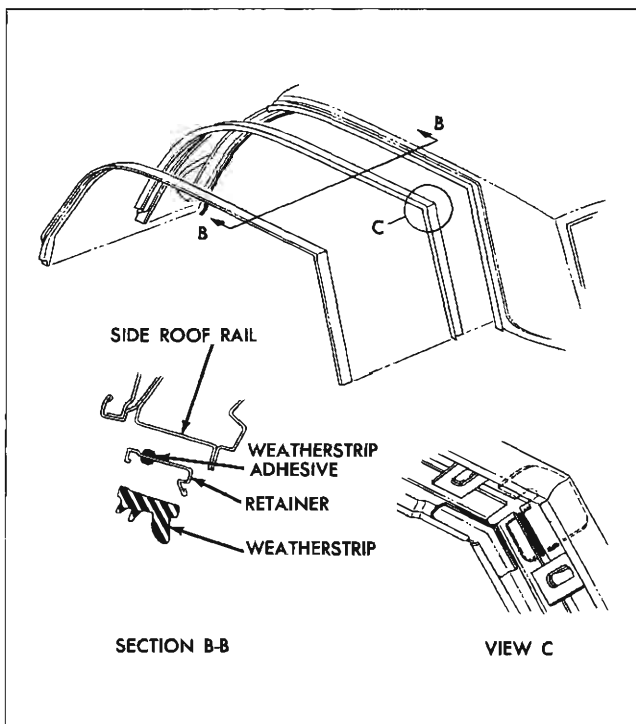

Fig. 3-60 Side Roof Rail Weatherstrip - 39 Style
NOTE: The side roof rail retainer to side roof rail sealing gasket (shown in Fig. 3-60 for 39 style and 3-61 for 47 style) is not installed in production, but is recommended for service sealing. This gasket can be cut to size from existing stock.
2. Apply a continuous bead (approximately 3/16" diameter of weatherstrip adhesive along entire outboard surface of side roof rail weatherstrip retainer (see section B-B in Figs. 3-60 and 3-61).